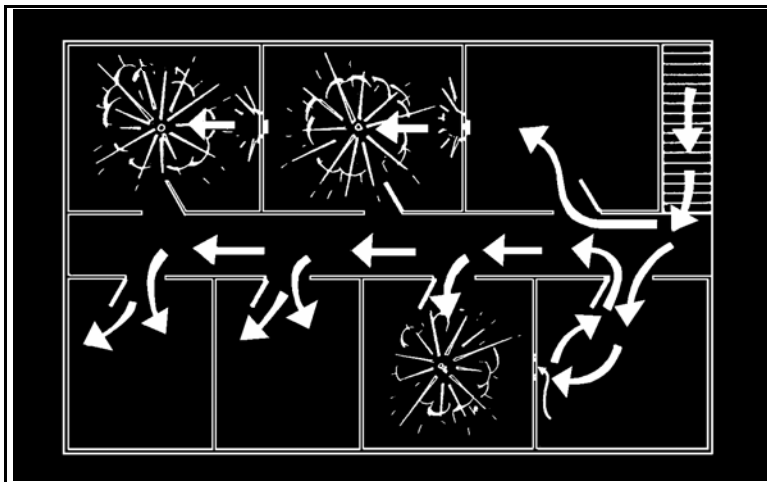

Figure 3. Clearing a building.
c. Clear the building (Figure 3). The dismount element leader directs an assault team (covered by fire) to the point of entry. One man throws a grenade into the room. After the explosion, the assault team enters, one man at a time, overwatched by the rest. The first man rushes in, firing his weapon in two- to three-round bursts, and takes a position that allows him to cover the whole room. The other men enter the room and make a quick, thorough search. One man remains inside the room to secure it.